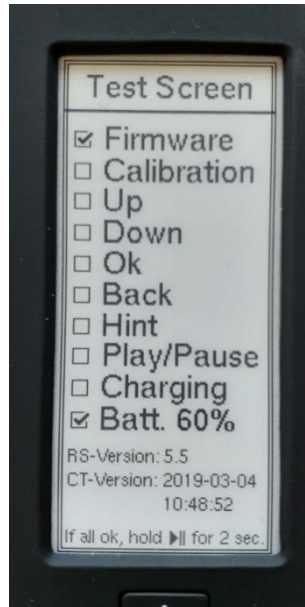

Figure 1: Test screen
4. The circling LED will continue, after a couple of seconds the LED's will stop circling and the screen will start cycling between a fully black and white screen a couple of times. Then the test screen will be shown. An example can be seen in figure 1.